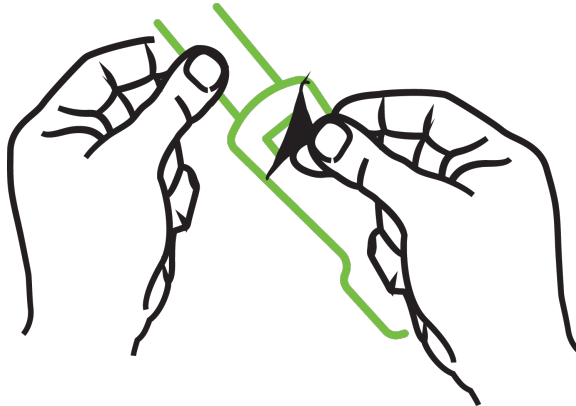

Figure 13-10: Removing protective liner from sensor
2. Remove and discard the protective liner from the sensor (Figure 13-10 on page 240).